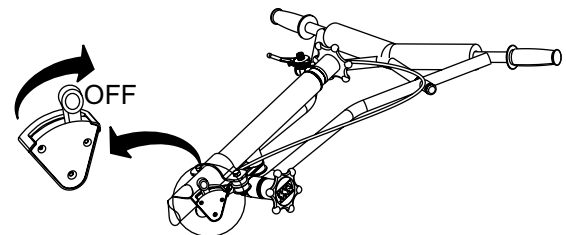

Figure 26. Testing Safety Stop Switch
1. With the engine running at idle, place the safety stop switch lever in the "OFF" position (Figure 26). Verify that the engine shuts off. If the engine continues to run, replace centrifugal safety stop switch.